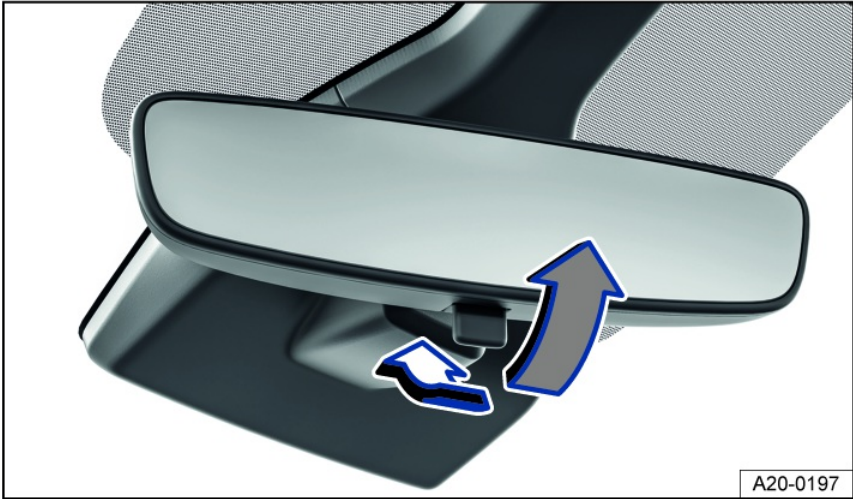

Fig. 97 On the windshield: manual dimming interior rearview mirror.
- To dim, pull the lever back fig. 97.